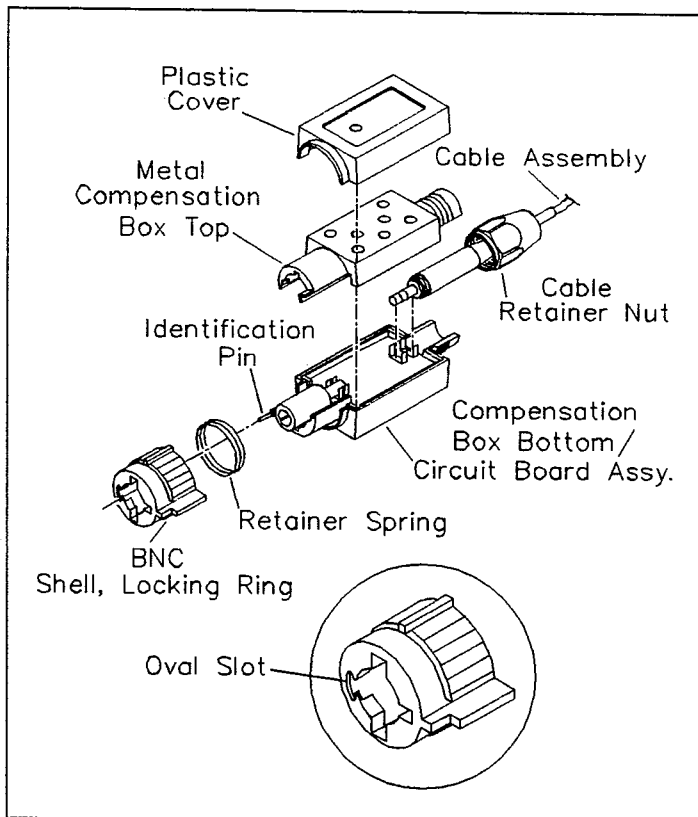

Figure 6. Compensation Box/Cable Assembly Replacement.
Use the following procedure to disassemble and replace the compensation box or the cable assembly (refer to Figure 6 for parts nomenclature).
- i. Replace the retainer spring. Press the new BNC shell onto the compensation box making sure the identification pin goes through the oval slot in the shell. (See Figure 6.)